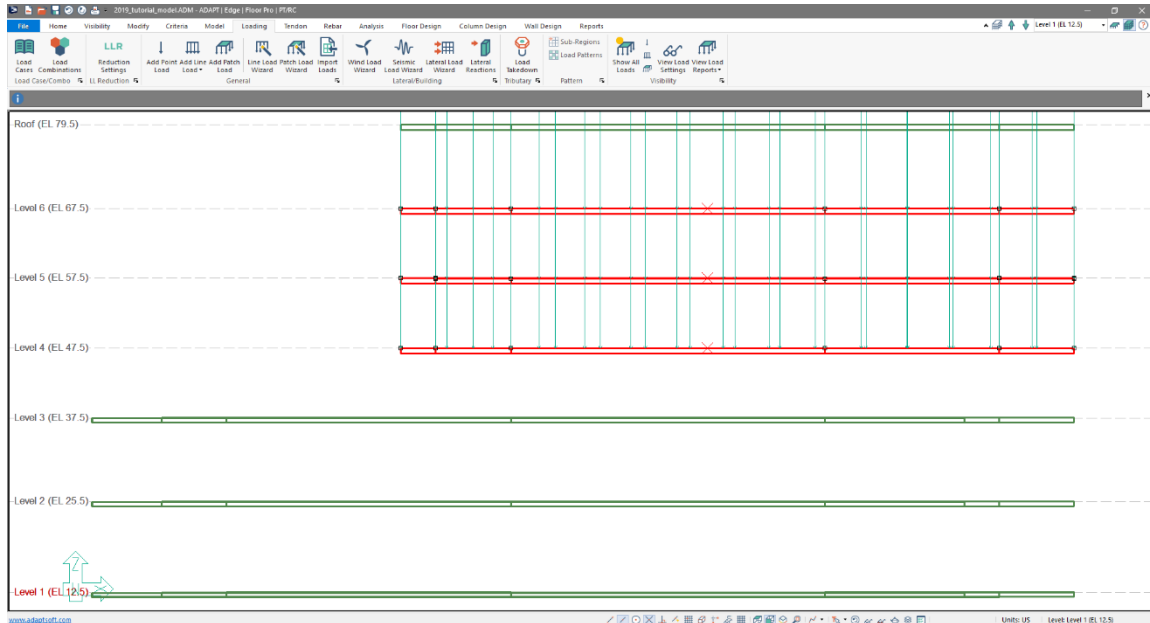

Figure 7-18
- The user will now see green lines representing the projection of the load as shown in **FIGURE 7-18**. We have applied a 100psf area load to each of the Level 4 through Level 6 slabs under the *Live Load* case.